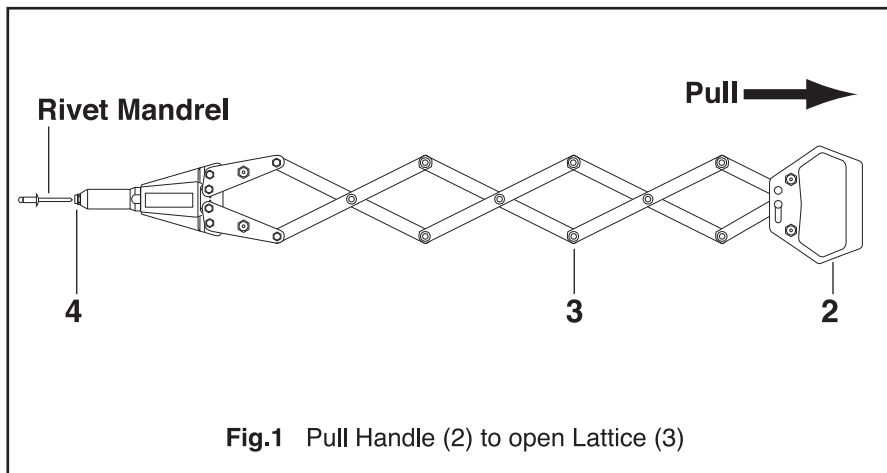

Fig.1 Pull Handle (2) to open Lattice (3)
- 1) Pull Handle (2) to open Lattice (3) completely (Fig.1), insert Rivet Mandrel all the way into Tool Nosepiece (4), then insert Rivet Head into the prepared hole completely.
- 3) Pull Handle (2) to open Lattice (3) completely (Fig.1) to eject spent Rivet Mandrel from Tool.
■ HOW TO CLEAN AND CHANGE JAWS (7), JAW PUSHER (8) AND JAW PUSHER SPRING (9):
- 1) If Jaws (7) can not bite or slip on the Rivet Mandrel, it is suggested to clean teeth of Jaw or change new Jaws (7). when Handle (2) is fully pulled to open Lattice (3) (Fig.1) but Jaws (7) are still not open completely, it is suggested to check and change new Jaw Pusher (8), Jaw Pusher Spring (9) and Nosepiece (4).